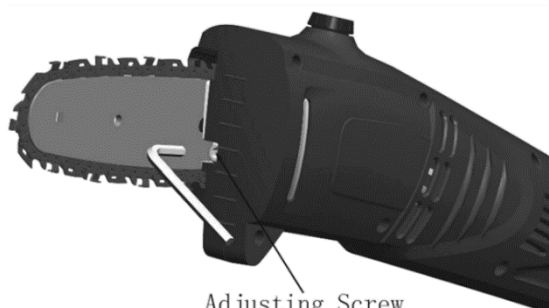

Figure 5
2. Turn the adjusting screw at the front of the feed head clockwise until the slack is out of the chain (see Figure 5)